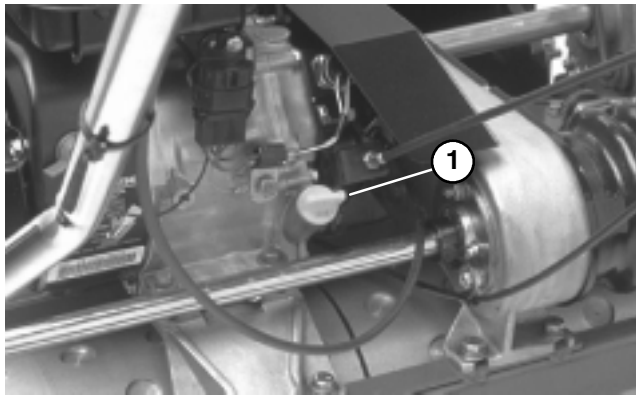

Figure 5
1. Position mower so the engine is level and clean around oil level gauge (Fig. 5).